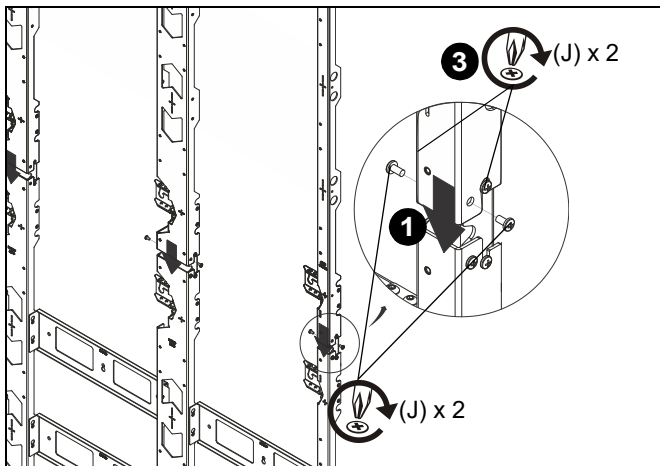

Figure 18
1. Lower additional uprights (L, M or N) onto installed uprights, placing grooves at bottom of uprights over partially installed screws (J) on connector kit. (See Figure 18)